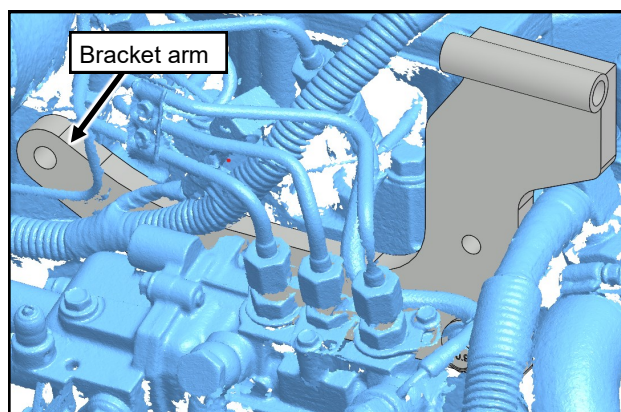

Fig. 1.36 (Snake compressor bracket into place)
1.36 Snake the compressor bracket arm between the hardlines and the engine and pivot down onto the previously installed screw. See Figure 1.36.